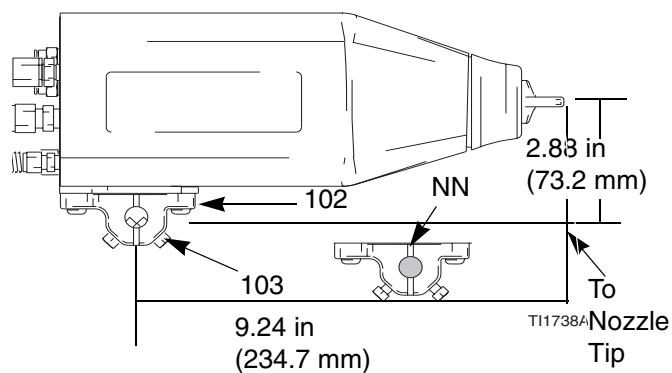

Fig. 4. Mounting Bracket
1. Loosen the mounting bracket's two set screws (103) and slide the bracket (102) onto a 1/2 in. (13 mm) mounting rod. See FIG. 4..
2. Position the gun and tighten the two set screws. For added positioning reliability, insert a 1/8 in. (3 mm) locating pin into the slot (NN) in the bracket and through a hole in the rod. See the detail in FIG. 4..